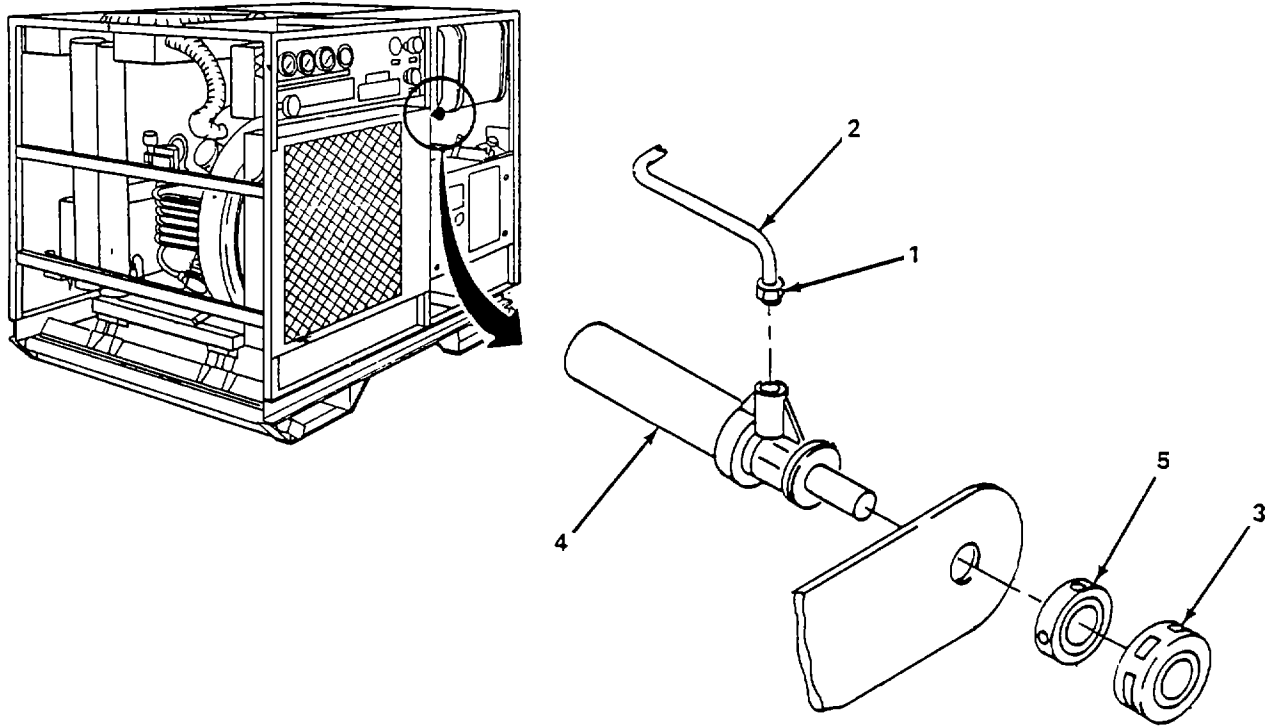

Figure 4-65. Hand Pump, Replace.
- (3) *Replace hand pump.* (figure 4-65)
- (a) Loosen fitting nut (1) and remove line (2).
- (b) Remove knob (3) from hand pump (4).
- (c) Remove locknut (5) and remove hand pump (4).
- (d) Install hand pump (4) and secure with locknut (5).
- (e) Install knob (3) on hand pump (4).
- (f) Install line (2) and tighten fitting nut (1).